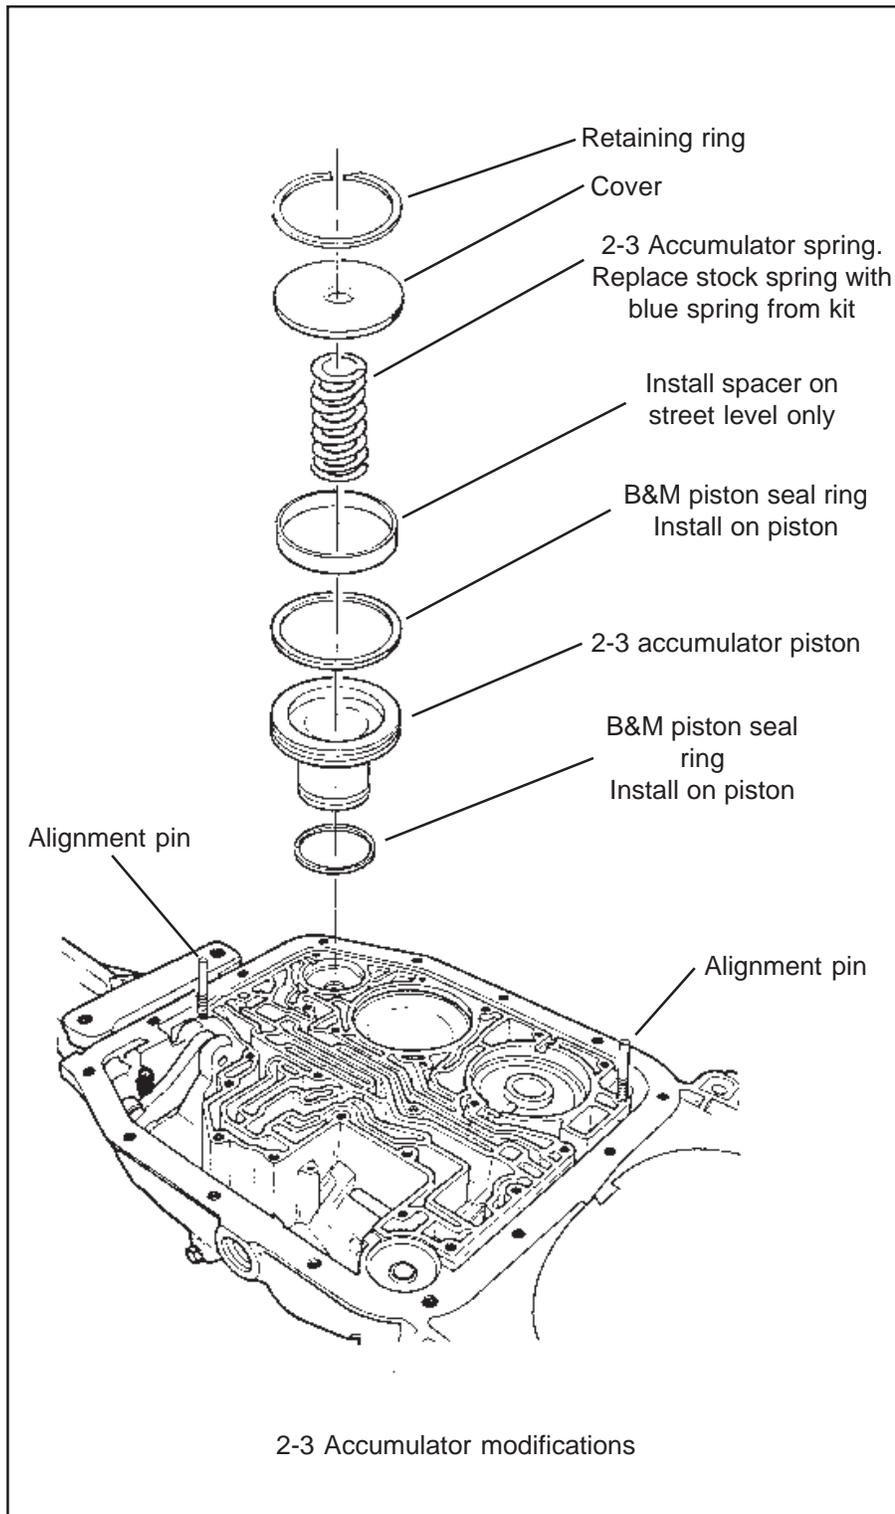

Figure 6
**STEP 13.** Remove retaining ring, 2-3 accumulator cover, 2-3 accumulator spring and 2-3 accumulator piston from 2-3 accumulator bore (See Fig. 6). Remove (2) seal rings from accumulator piston. Coat the (2) square
**STEP 14. Heavy Duty only;** Replace stock 2-3 accumulator spring with the **BLUE** spring supplied in kit. Install **BLUE** 2-3 accumulator spring, cover and retaining ring (See Fig. 6).
**STEP 15. Street only;** Replace stock 2-3 accumulator spring with the **BLUE** spring supplied in kit. Install **BLUE** 2-3 accumulator spring, **B&M** 2-3 accumulator spacer, cover and retaining ring (See Fig. 6).
**STEP 16.** Check your parts before proceeding, you should have (3) stock springs and no check balls (except 1 for 1980 models) or relief valves left over. Make sure the (12) valve body plate bolts are properly torqued.
**STEP 17.** Remove all old gasket material from the case surface. Install (2) M6x40mm (1.56") alignment pins (supplied in kit) into the holes shown (See Fig. 6). Install case to separator plate gasket over alignment pins. Use a few dabs of grease to hold the gasket against the case.